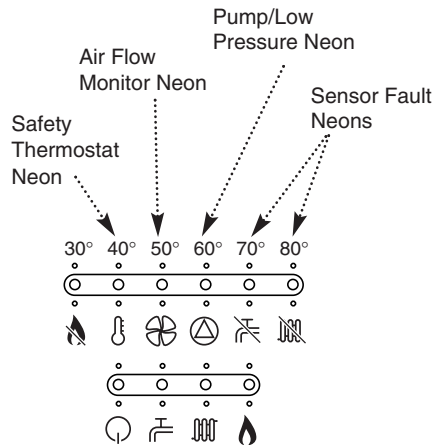

Fig. 14
1. Your Potterton Performa 24i HE is fitted with additional safety devices, which shut down the boiler in the event of the system, the boiler or the flue overheating. The safety thermostat neon (⊕) will light in this instance (Fig. 14).
2. If the neon illuminates (⊕) it indicates that the flue or flue terminal is blocked or obstructed in some way, or that there is an internal fault. If there is no external blockage of the flue terminal that can be easily removed contact your Installer or Service Engineer (Fig. 14).
1. The neon (⊕) will illuminate if the circulating pump is faulty or the system pressure drops below the minimum requirement (Fig. 14).
1. When the (⊕) or (⊕) neon is illuminated a fault on the hot water or central heating temperature sensor is indicated (Fig. 14). Contact your Installer or Service Engineer.